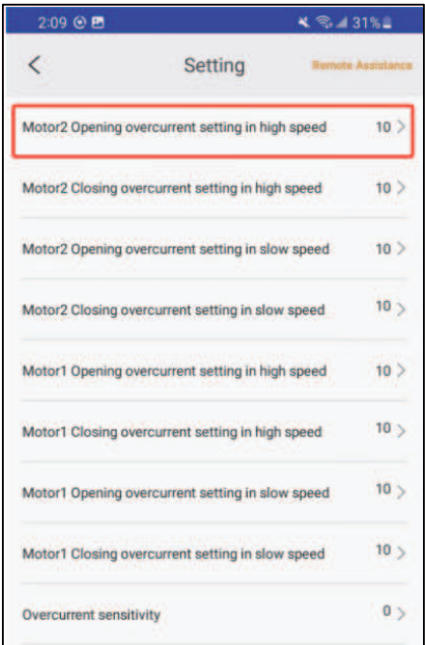

Fig 12
- Step 2. Set the parameters on the APP.(Fig 12)